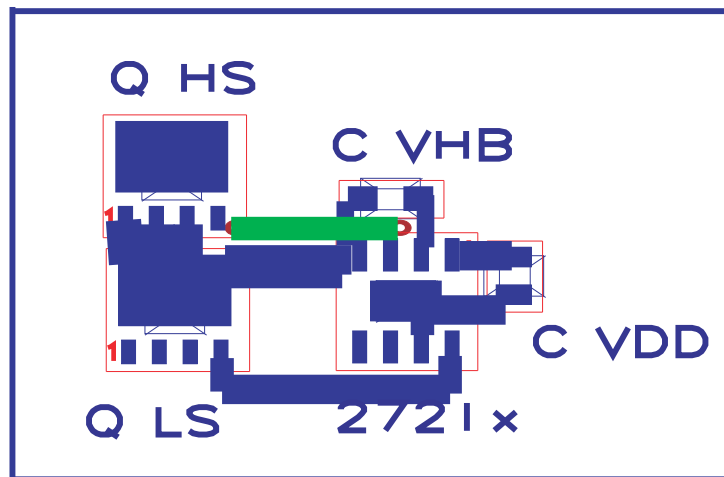

Figure 7-7. UCC27211 Component Placement
- Locate the V_{DD} - V_{SS} and V_{HB} - V_{HS} (bootstrap) capacitors as close as possible to the device (see Figure 7-7).
- Pay close attention to the GND trace. Use the thermal pad of the DDA and DRM package as GND by connecting it to the VSS pin (GND). The GND trace from the driver goes directly to the source of the MOSFET but should not be in the high current path of the MOSFET(S) drain or source current.